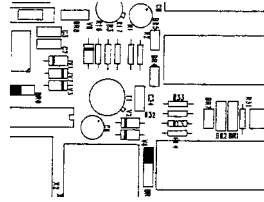

Figure 5: PTT–transistor switches to ground
1. X3 pin 3 switched to ground by transistor. This mode should be selected when the PTC is supplied with power through X3 pin 5. Figure 5 shows the jumper setting. If the power is not supplied through X3, no jumpers are set at BR3.